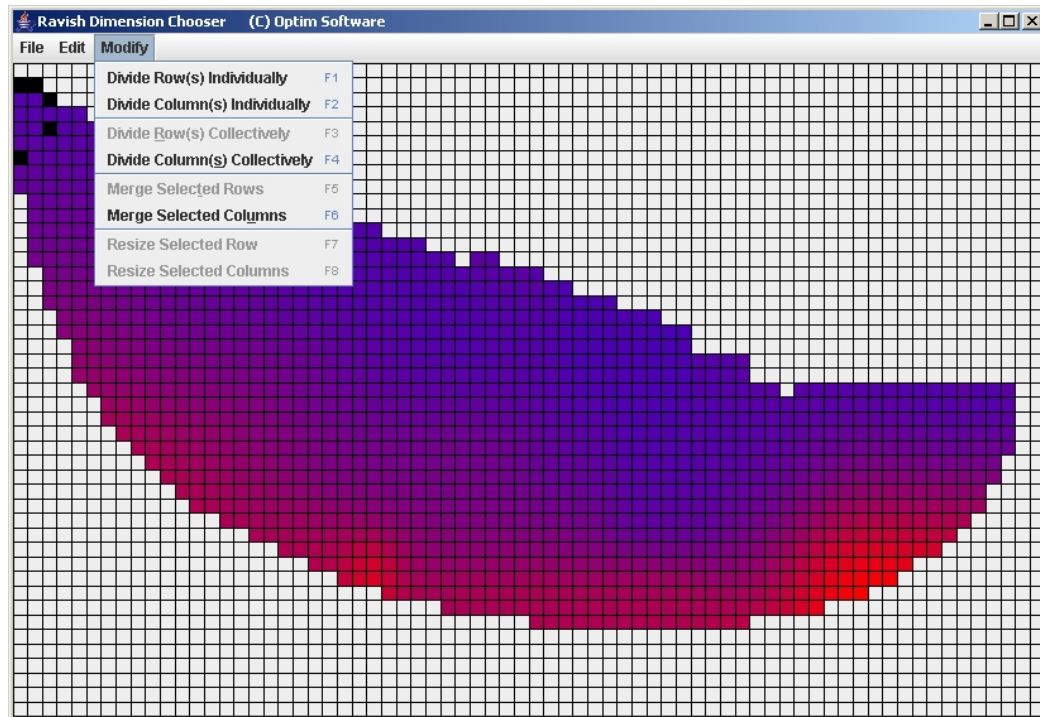

Figure 49: Choose the different options under the Modify menu to specify the desired variable grid mesh.
- To modify the grid spacing, select the rows or columns that need to be changed and then choose from among different options under Modify menu (Figure 49). If multiple rows or columns are to be changed then make sure the 'CTRL' button on the keyboard is pressed while selecting the desired rows and columns.